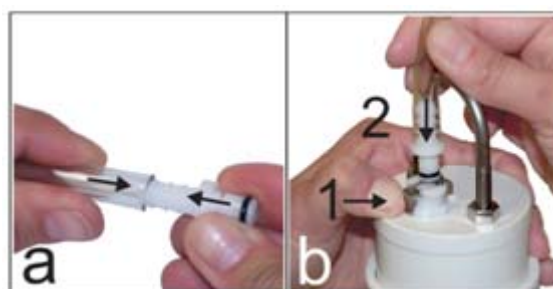

Fig. 14. Connecting the Quick Connection to the RU.
**Connect the Valve Quick Connection** provided in the kit to the end of the Tubing (Fig. 14 a). The other end of the Tubing should be already connected to the RU or APM.